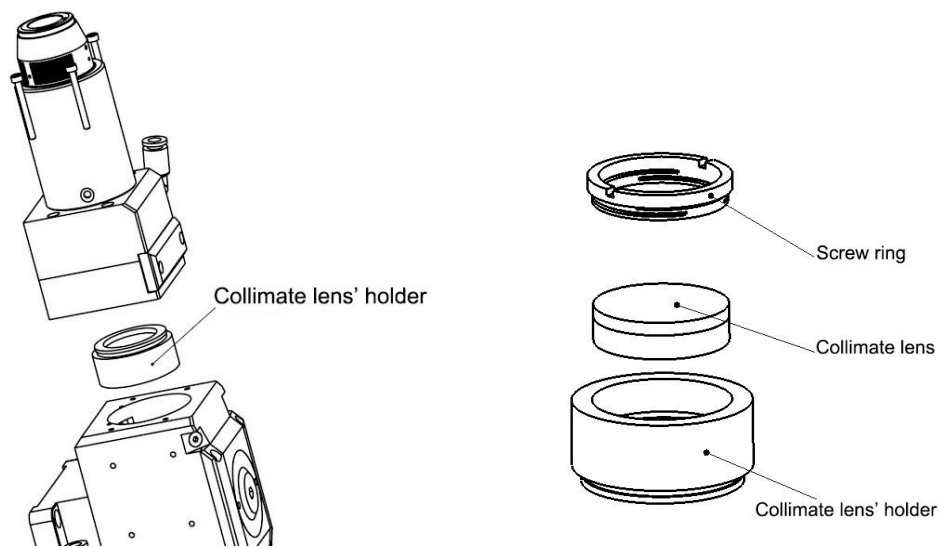

Figure 13. Collimate lens with lens' holder.
(1) Disassembly the cutting head and clean up all the dust on the surface of the head in a clean place;
(2) Loosen all the screws of the collimate lens unit showed in figure 13 by hexagonal screw driver in 3mm, and kindly suggest you use **masking tape** to cover the part connecting with collimate lens for preventing dust coming inside;
(3) Take out of the collimate lens with lens' holder by the **optics resemble tools** and then take out of the screw ring and collimate lens by the same tool;
(4) Clean or change the collimate lens;